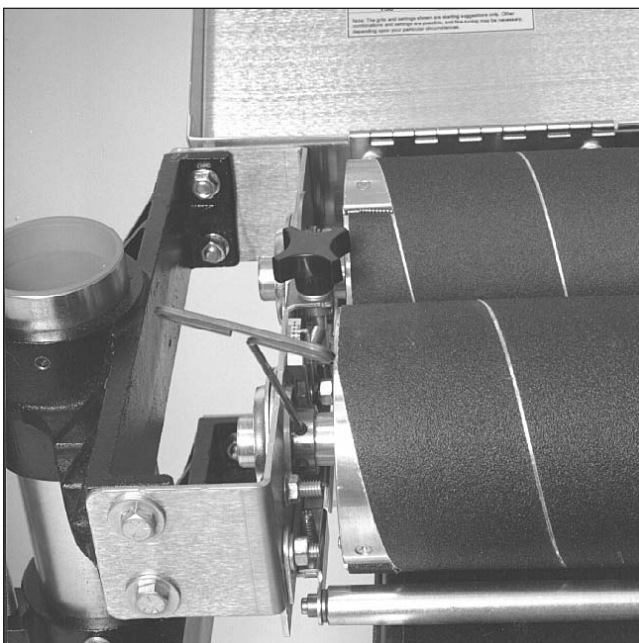
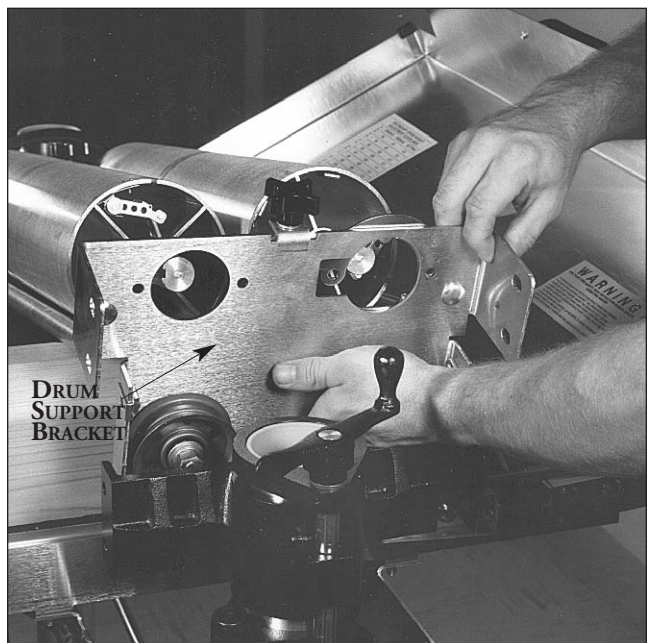

Fig. 33. Loosening drum bearing set screws.
Fig. 34. Removing sanding drum support bracket.
6. Loosen the set screws in the two V-belt pulleys and remove the pulleys. Next, loosen the two set screws in each of the four bearing collars (Fig. 33). Now remove the sanding drum support brackets that hold the bearings (Fig. 34). Remove the sanding drums at this time and install the new drums. If the bearings need replacing, replace them at this time (see page 33).